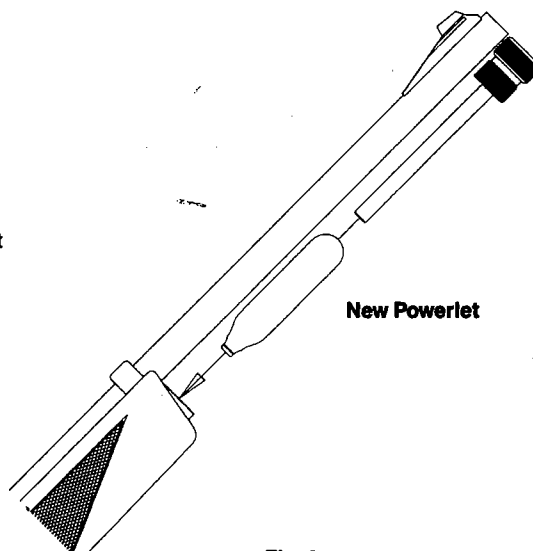

Fig. 3
- Insert the new CO₂ Cylinder into the rifle with the small neck of the cylinder pointing toward the rear of the gun. (Fig. 3)